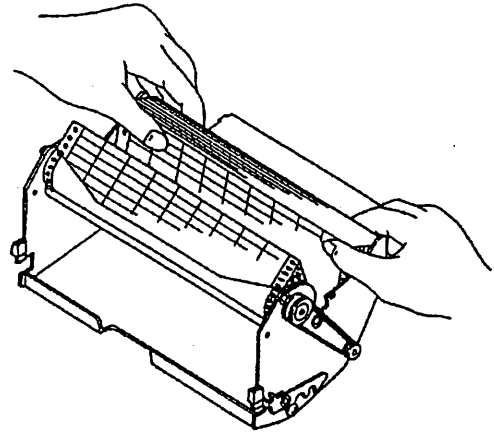

Figure 6.1.4
- 5) Place the chart in the storage compartment with the round drive holes of the paper on the left and the chart-cut end pointing toward you (see Figure 6.1.4).